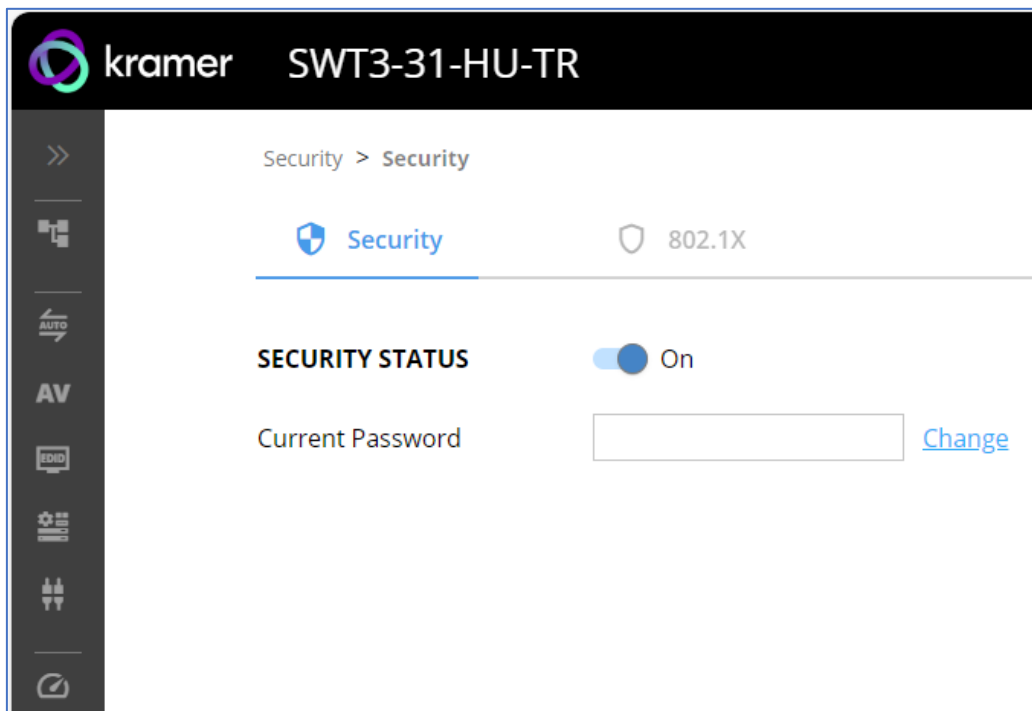

Figure 49: Security – Security Tab
1. Go to the Security page (Figure 49).
1. Go to the Security > Security (Figure 49).